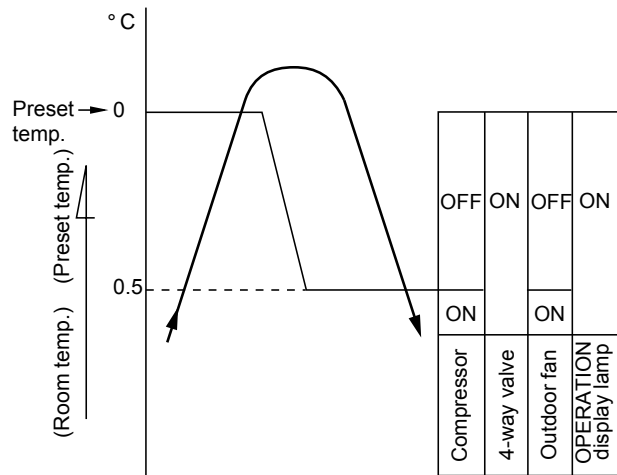

**Fig. 7-2-5**
- (2) The microprocessor turns the compressor on and off at the regular intervals (4 to 6 minutes). While the compressor is turning off, the indoor fan motor operates in the SUPER LOW position. The pattern of operation depending on the relation between room temperature and preset temperatures is shown in Fig. 7-2-5.